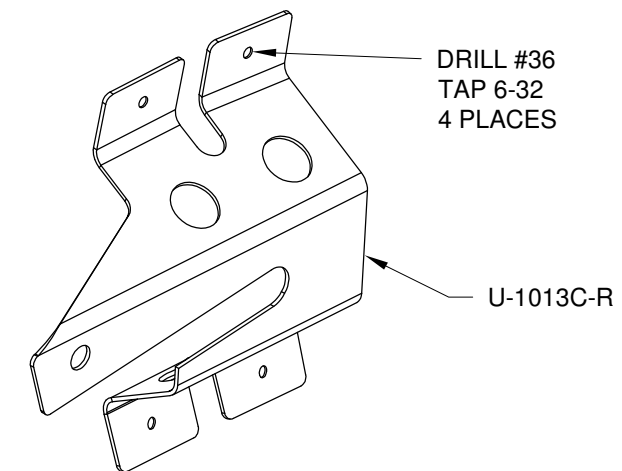

FIGURE 3: DRILLING AND TAPPING NOSE WHEEL - FAIRING BRACKETS
Step 3: Tap the U-1013C-L/R Nose Wheel - Fairing Brackets for 6-32 screws as shown in Figure 3. Reattach the wheel fairings to the main wheel fairing bracket with 6-32 screws and check their alignment.